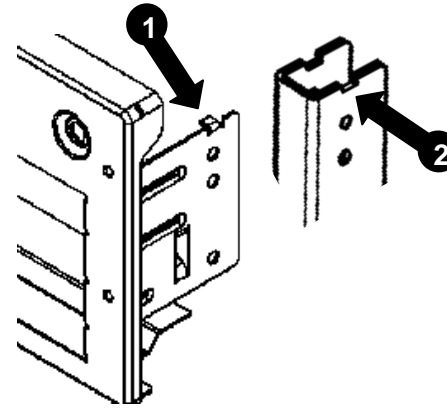

Figure 13 Each side of the user interface bracket has a tab ❶ that rests in a slot on the chassis u-profile ❷.
3. Grasp one corner of the interface panel and lift upward, then pull it toward you (see Figure 13).